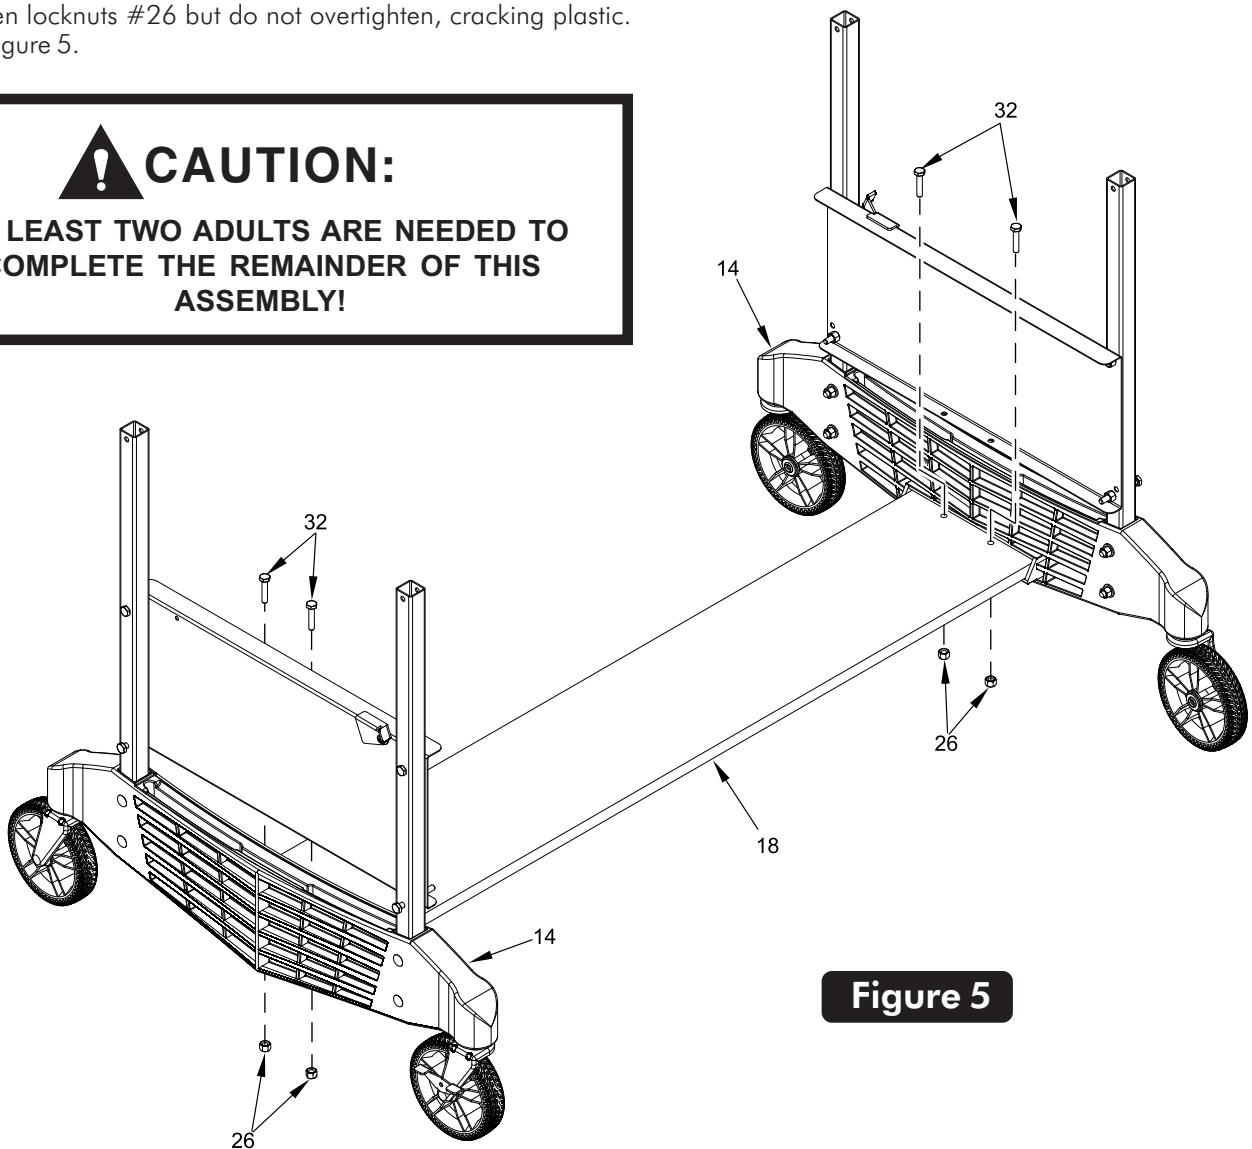

Figure 5
7. Attach Wood Bottom Board #18 to Caster Beams #14 as shown in Figure 5. Attach with four bolts #32 and four locknuts #26. Tighten locknuts #26 but do not overtighten, cracking plastic. See Figure 5.